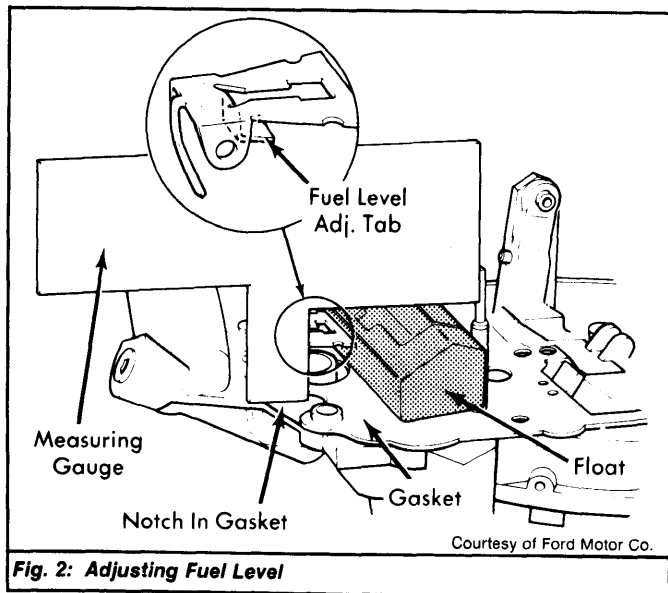

Fig. 2: Adjusting Fuel Level
1) With upper body removed, place a new upper body gasket in position. Turn upper body upside down. See Fig. 2.
2) Construct a gauge (as shown in Fig. 2) to specified fuel level setting. Using gauge, measure distance from cast surface of upper body (not against gasket) to bottom of float.